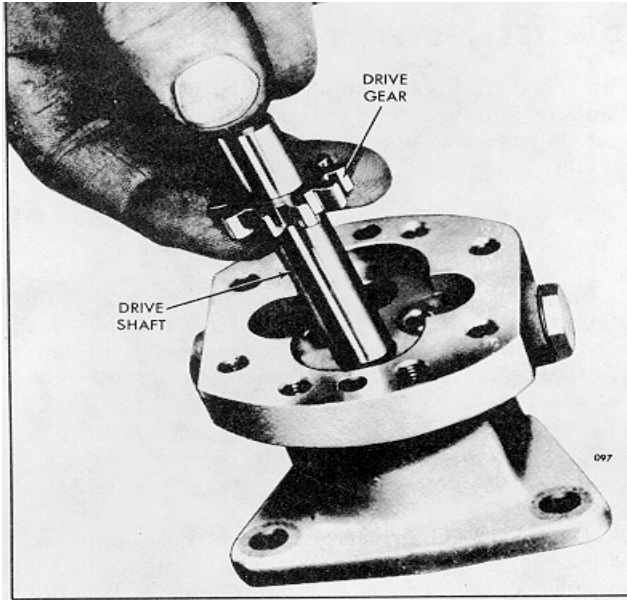

Fig. 9 Installing Fuel Pump Drive Shaft and Gear Assembly
4. Lubricate the pump shaft and insert the square end of the shaft into the opening at the gear side of the pump body and through the oil seals as shown in Fig. 9.